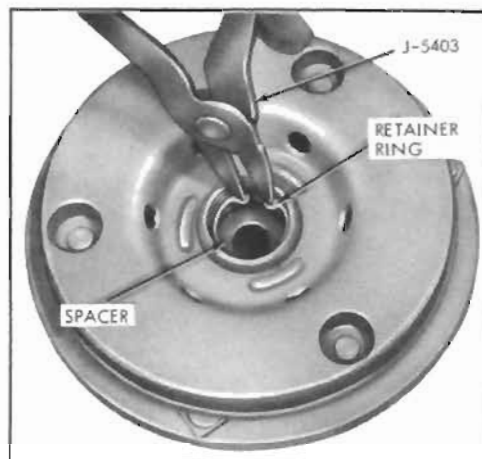

Figure 11-52—Removing or Installing Retainer Ring in Clutch Drive Plate
4. Using No. 21 Truarc Pliers (J-5403) take out retainer ring from hub of clutch drive plate (see Figure 11-52). Lift out spacer.
16. Reassemble spacer into hub of clutch drive plate (see Figure 11-52).
hub of clutch drive plate (see Figure 11-52) using No. 21 Truarc Pliers (J-5403).